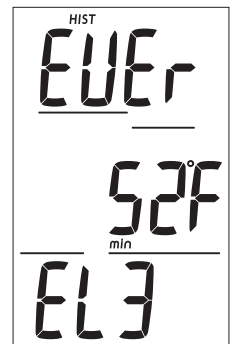

Fig. 45 - HISTORY 3
**History 3**, information includes (Fig. 45):